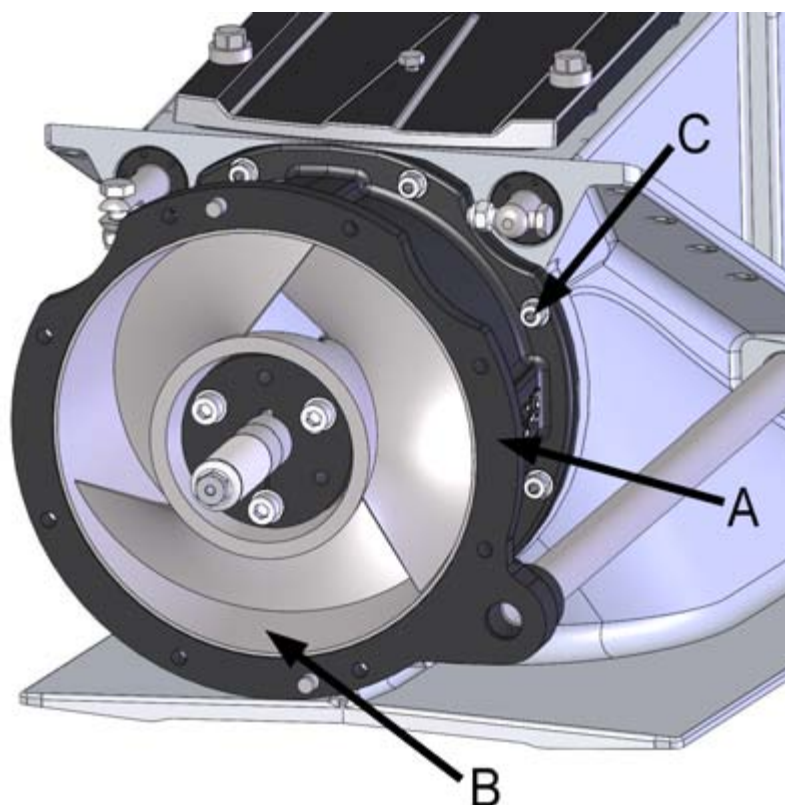

Figure 47. Impeller tunnel
The impeller spins inside a tunnel with an aluminium exterior surface (figure 47, point A) and an inner cone made of acid-proof steel (figure 47, point B). The inner cone is not an actual wearing part as the cone shape enables the impeller to be adjusted more deeply, in order to maintain a small clearance. However, if the inner cone is damaged, the entire impeller tunnel can be replaced.
3. Open the tunnel locking nuts (8 pcs, figure 47, point C).